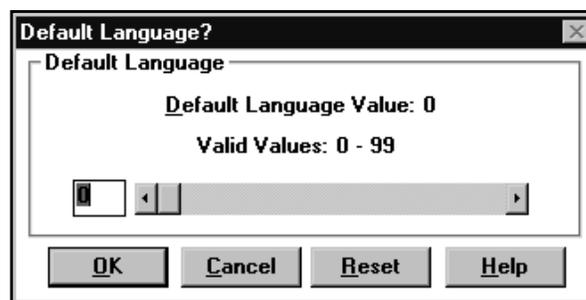

FIGURE 101. Example of Default Language dialog box
1. To choose a default language, select Default Language in the configuration window. (See Figure 101.)